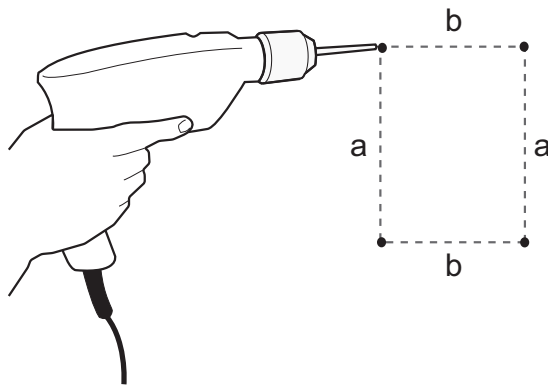

Fig. 30 Drilling holes for mounting
1. Mark and drill holes. See fig. 30; also see section *Main dimensions and weight*.